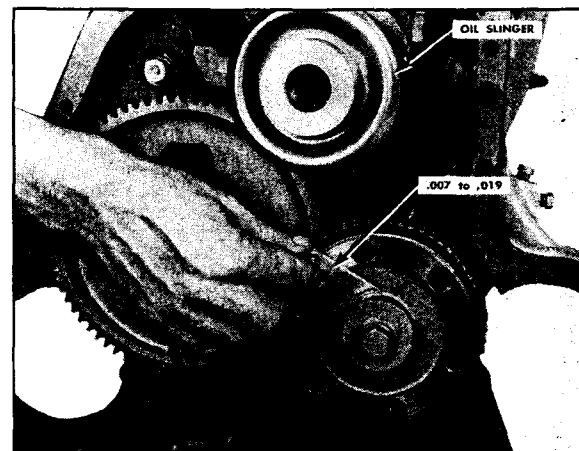

Fig. 12-35. Checking clearance between thrust washer and idler gear
3. The clearance between the thrust washer and gear should be .007 to .019. Fig. 12-35.
Place the oil slinger in its position against the crankshaft gear as shown in Fig. 12-35.